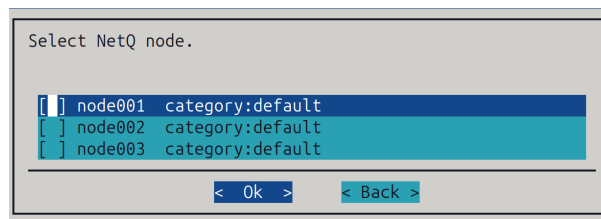

Figure 2.4: NetQ deployment: choosing 3 nodes
4. If no category is set, then 3 nodes can be chosen (figure 2.4):